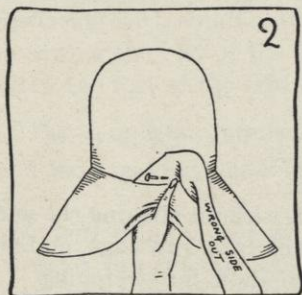

FIG. 2.
- (1) If there are any raw edges to hide, find out whether the fold needs to be $\frac{1}{2}$ or $\frac{3}{4}$ inch wide.
- (2) Multiply either the $\frac{1}{2}$ inch or the $\frac{3}{4}$ inch (whichever you decided upon) by two and one-half. You multiply by two and one-half because this will allow for making the fold and a little extra for stretching the material.
- (3) Write down your answer.
d. Fold over a true bias of material, if one is not already cut; read and follow Job 15, Section 1 a through d and see Figures 2 and 3 of the same job (pages 63 and 64).
- (1) Pin one end of bias strip at the base of the crown at the back of the hat, placing the right side of the material against the crown (see Figure 2).